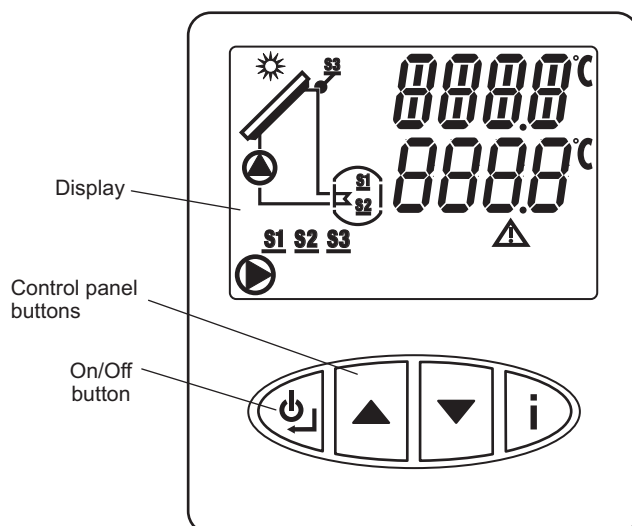
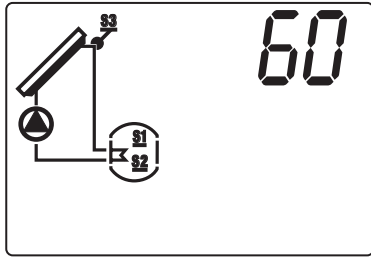

Fig. 23
Fig. 24
Switch on the electrical supply and press the On/Off button on the control panel (see Fig. 23) to start the system.
5.3 CONTROL UNIT DISPLAY - Fig. 23
When first switched on, the display will show all the symbols as shown in Fig. 23 for 2 seconds then the system schematic is displayed and the countdown from 70 seconds to 0 will start (see Fig. 24). During this countdown the unit does a self-diagnosis of all the sensors and pumps. If the collector temperature is between 10 and 130°C the drain back unit pump will run for a short period to run a test program, after which the system is ready for use.
When the pumps are operating, a flashing pump symbol will be visible in the display (see Fig. 23 and Section 5.4).
If a fault occurs, a flashing warning symbol (see Fig. 23 and Section 5.4) appears in the display and a fault code will be displayed. Refer to Section 10 for a list of fault codes and possible solutions.